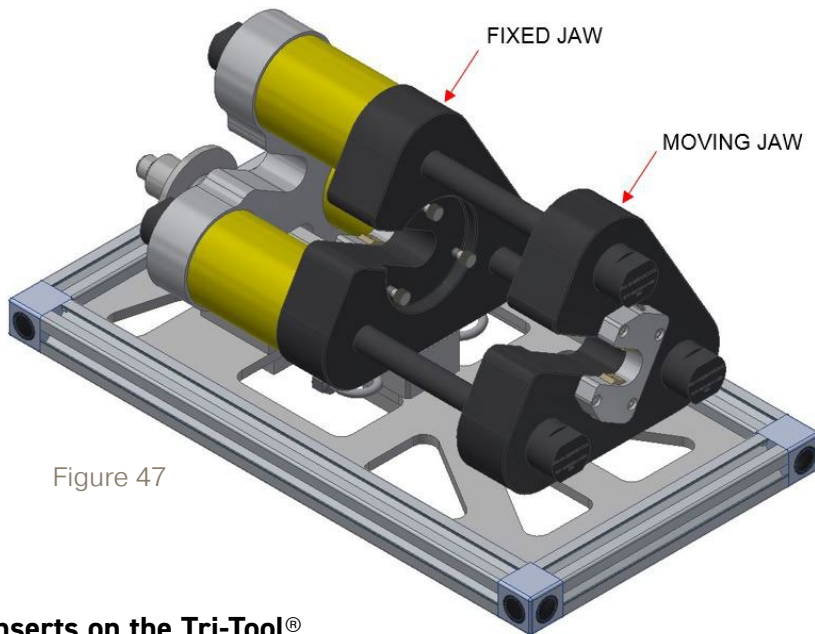

Figure 47
1. There are two inserts to select – one for the fixed jaw and one for the moving jaw (Figure 47). The long insert is installed on the moving jaw side of the tool. This is the side closest to the 3 yellow cylinders.